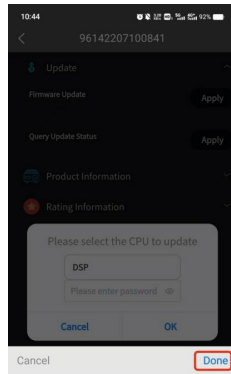

Figure 2
5. Click the selection box circled in red in Figure 1 to call the drop-down box option. Select the CPU to be updated. In the example shown in Figure 2, DSP is selected.